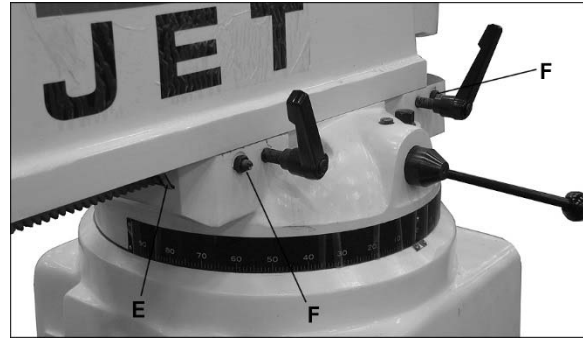

Figure 18: Ram gib location
Adjust one gib (E, Figure 18) using the two set screws (F). Tighten the nuts on the set screws after adjusting.